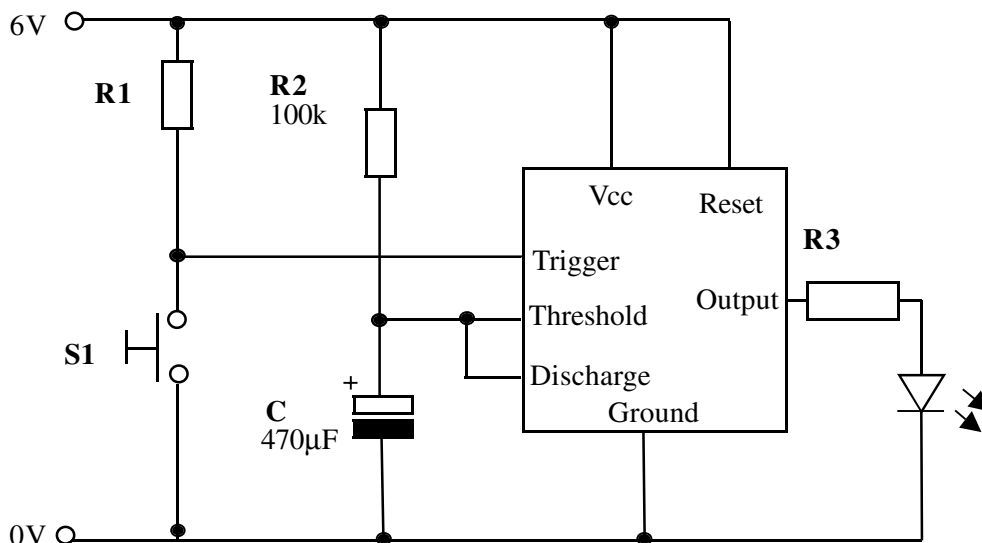

Fig. 1(b)
- (i) Describe the operation of the circuit shown in **Fig. 1(b)** after switch S1 has been pressed momentarily. [3]
- (ii) Sketch and label the output waveform for the circuit in **Fig. 1(b)** given that  $T = 1.1C \times R2$ , where T is the time period, in seconds, of the output waveform. [4]